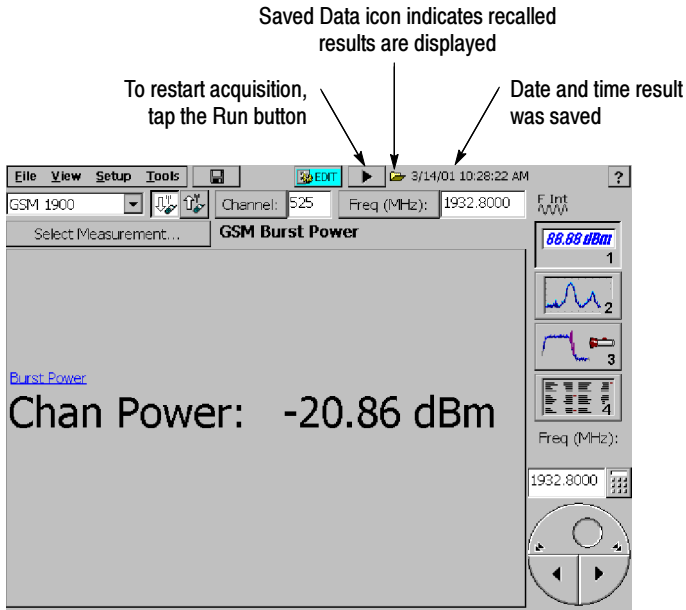

Figure 3-65: Example of a Recalled Result display
3. Select the results file to recall and tap **OK**. See Figure 3-65.